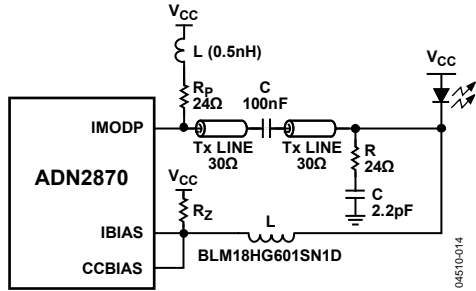
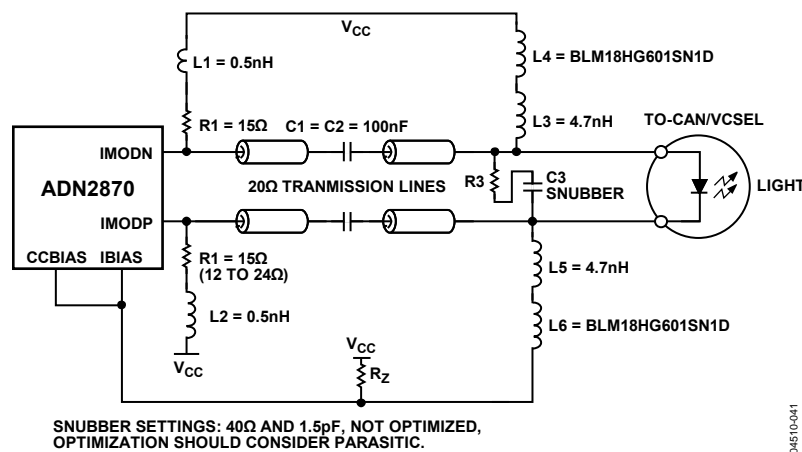

Figure 32. Recommended Interface for ADN2870 AC Coupling
Figure 33. Recommended Differential Drive Circuit
The schematic in Figure 32 describes the recommended circuit for interfacing the ADN2870 to most TO-Can or coax lasers. These lasers typically have impedances of  $5\ \Omega$  to  $7\ \Omega$  and have axial leads. The circuit shown works over the full range of data rates from 155 Mbps to 3.3 Gbps including multirate operation (with no change to PAVCAP and ERCAP values); see the Typical Performance Characteristics for multirate performance examples.
Coax lasers have special characteristics that make them difficult to interface to. They tend to have higher inductance, and their impedance is not well controlled. The circuit in Figure 32 operates by deliberately miterminating the transmission line on the laser side, while providing a very high quality matching network on the driver side. The impedance of the driver side matching network is very flat vs. frequency and enables multirate operation. A series damping resistor should not be used.
The  $30\ \Omega$  transmission line used is a compromise between drive current required and total power consumed. Other transmission line values can be used, with some modification of the component values. The R and C snubber values in Figure 32,  $24\ \Omega$  and  $2.2\ \text{pF}$ , respectively, represent a starting point and must be tuned for the particular model of laser being used.  $R_p$ , the pull-up resistor, is in series with a very small ( $0.5\ \text{nH}$ ) inductor. In some cases, an inductor is not required or can be accommodated with deliberate parasitic inductance, such as a thin trace or a via placed on the PC board.
Recommended component layouts and gerber files are available by contacting sales at Analog Devices. Note that the circuit in Figure 32 can supply up to  $56\ \text{mA}$  of modulation current to the laser, sufficient for most lasers available today. Higher currents can be accommodated by changing transmission lines and backmatch values; contact sales at Analog Devices for recommendations. This interface circuit is not recommended for butterfly-style lasers or other lasers with  $25\ \Omega$  characteristic impedance. Instead, a  $25\ \Omega$  transmission line and inductive (instead of resistive) pull-up is recommended; contact sales for recommendations.
The ADN2870 also supports differential drive schemes. These can be particularly useful when driving VCSELs or other lasers with slow fall times. Differential drive can be implemented by adding a few extra components. A possible implementation is shown in Figure 33.
In the circuits shown in Figure 32 and Figure 33, Resistor  $R_z$  is required to achieve optimum eye quality. The recommended value is approximately  $200\ \Omega \sim 500\ \Omega$ .
**Table 6. ADN2870 Response to Various Single-Point Faults in AC-Coupled Configuration, as Shown in Figure 32**